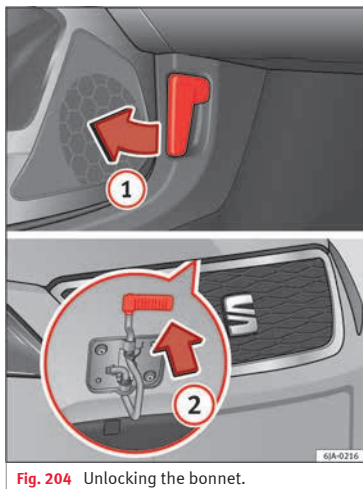

Fig. 204 Unlocking the bonnet.
- Pull the lever **1** » Fig. 204 under the dash panel in the direction indicated by the arrow.
- Pull the release catch in the direction of the arrow **2** » Fig. 204 and the bonnet will be released.